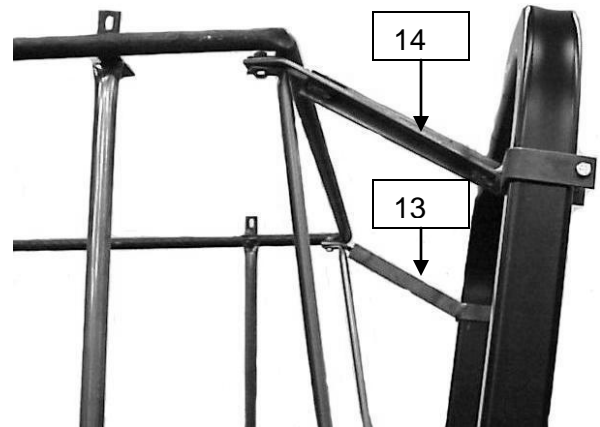

Figure 8
Step 8; See Figure 8:
Step 9; See Figure 8 & 9: